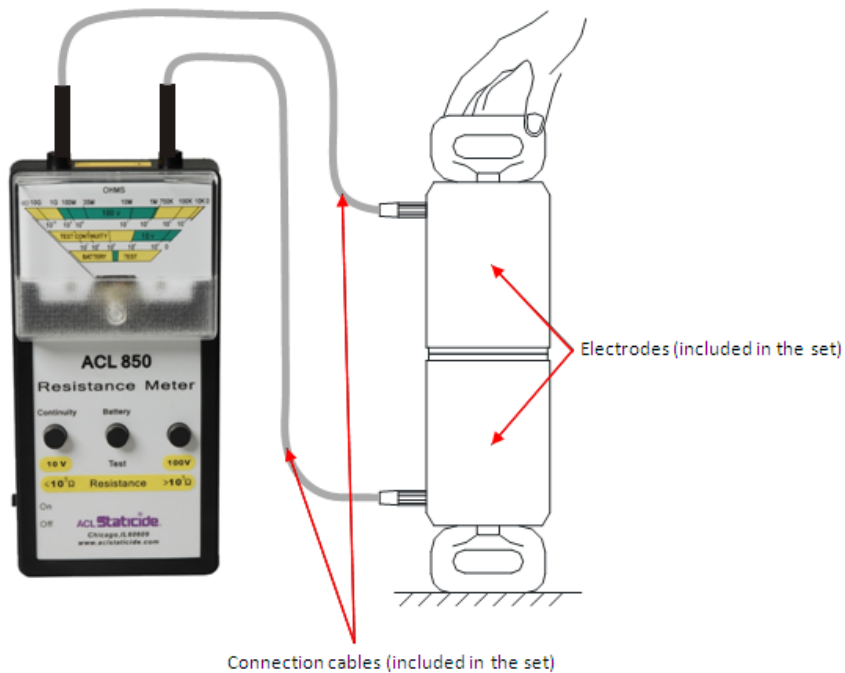

Fig. 3
- Put the electrodes on a flat surface as it’s shown on Fig. 3 and hold the upper electrode by the handle.